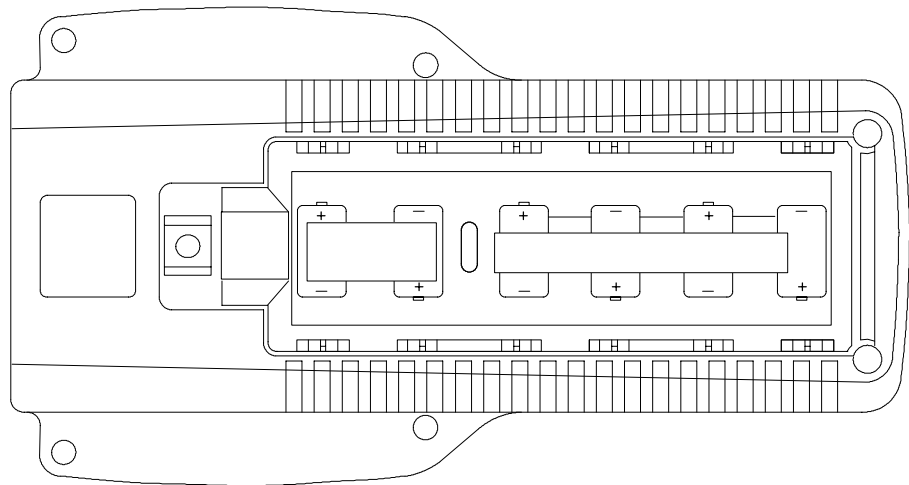

Figure 6-11: Installed polarity of alkaline batteries
1. Press the batteries into place according to the polarity label on the bottom of the battery compartment. See Figure 6-11.